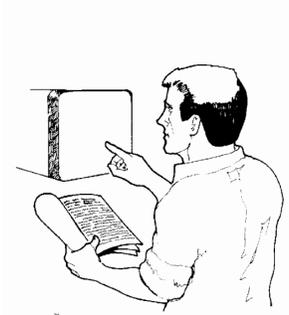

FIGURE 14
- Close front panel. Connect power, turn unit on. The unit is now ready to be configured and programmed, Fig. 14.